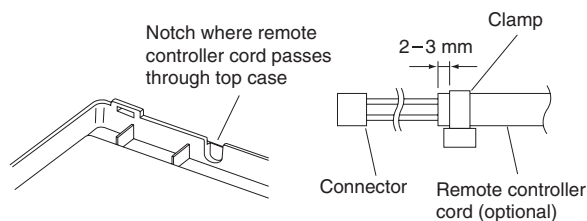

Fig. 3-24
2. In order to later pass the receiver wiring out through the upper case (thin part at the top center), use nippers or a similar tool to cut a notch in the same size as the remote controller cord (optional). (Fig. 3-24)